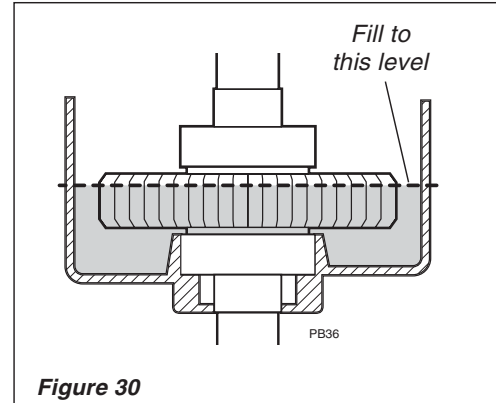

Figure 30
5. Place the gearcase on the RH side and supported so the outer tube is parallel to the ground. Refill the gearcase with 60 cc (2.0 fl.oz) of Mobil SHC634 Synthetic Gear Oil to the bottom of the chamfer on the output gear. The correct oil depth is 5/8" (15.5 mm). See Figure 30. **DO NOT OVERFILL!**